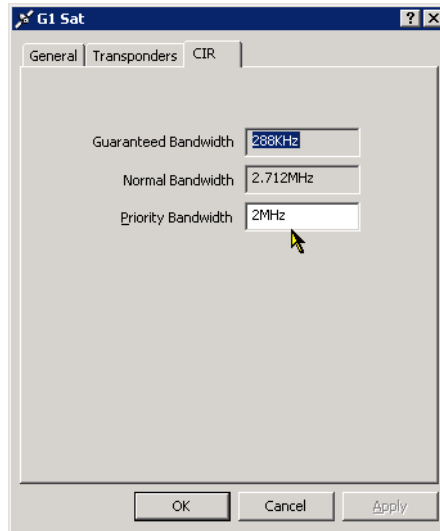

Figure 3-53 Satellite CIR tab
2. Select the **CIR** tab, as shown in figure 3-53.